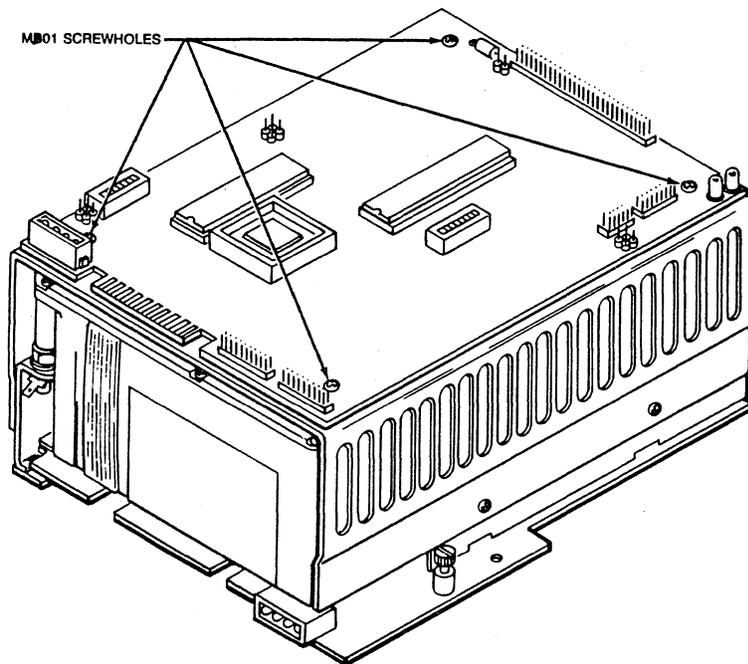

Figure 3-2. Installing MD01 Controller on Mounting Bracket
To install the MD01 Controller in the disk drive chassis, see Figures 3-2 through 3-4 and use the following procedure:
3. Place MD01 Controller (component side up) on top of mounting bracket. Align four screw holes on MD01 Controller with four screw holes on mounting bracket (see Figure 3-2). Secure MD01 Controller in place with four 4-40 x 1/4-inch screws.